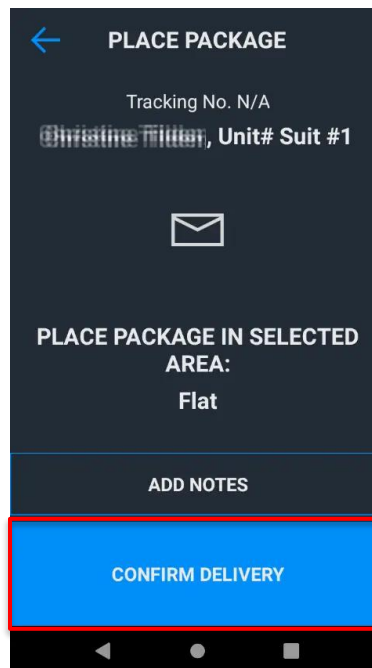

Figure 17: Add Notes and Confirm Delivery
6. If you would like to add a signature upon pickup or indicate that the package is perishable, tap **Add Notes** and select the appropriate note. See Figure 17. See Assigning Special Notes to the Package on page 19.
9. If the package is placed in an area other than the shelf (an Envelope bin or an Oversized area), tap **Confirm Delivery** after you place the package. See Figure 17.